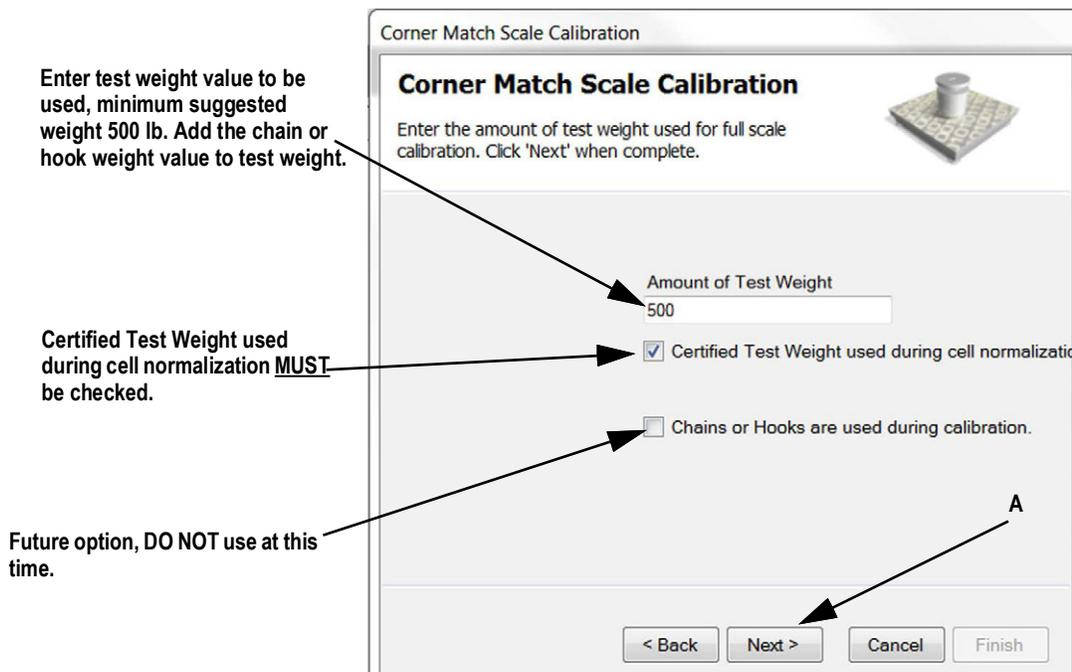

Figure 5-4. Enter Test Weight Value
**NOTE:** When hanging weights from the forks make sure to note the weight of hanging device and add to test weight value (Figure 5-4).
6. Enter test weight value to be used and press **Next** (Figure 5-4 A).